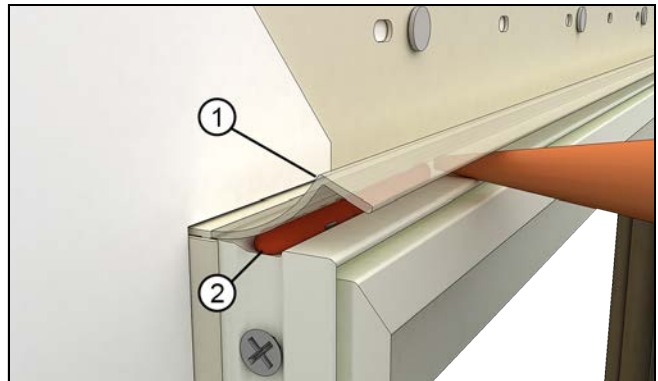

Figure 47
2. If using the factory applied vinyl drip cap, make sure it extends about 1/8" (3) beyond the edge of the window on each side.
3. Apply a bead of sealant beneath the vinyl drip cap along the top of the head jamb as shown in Figure 47